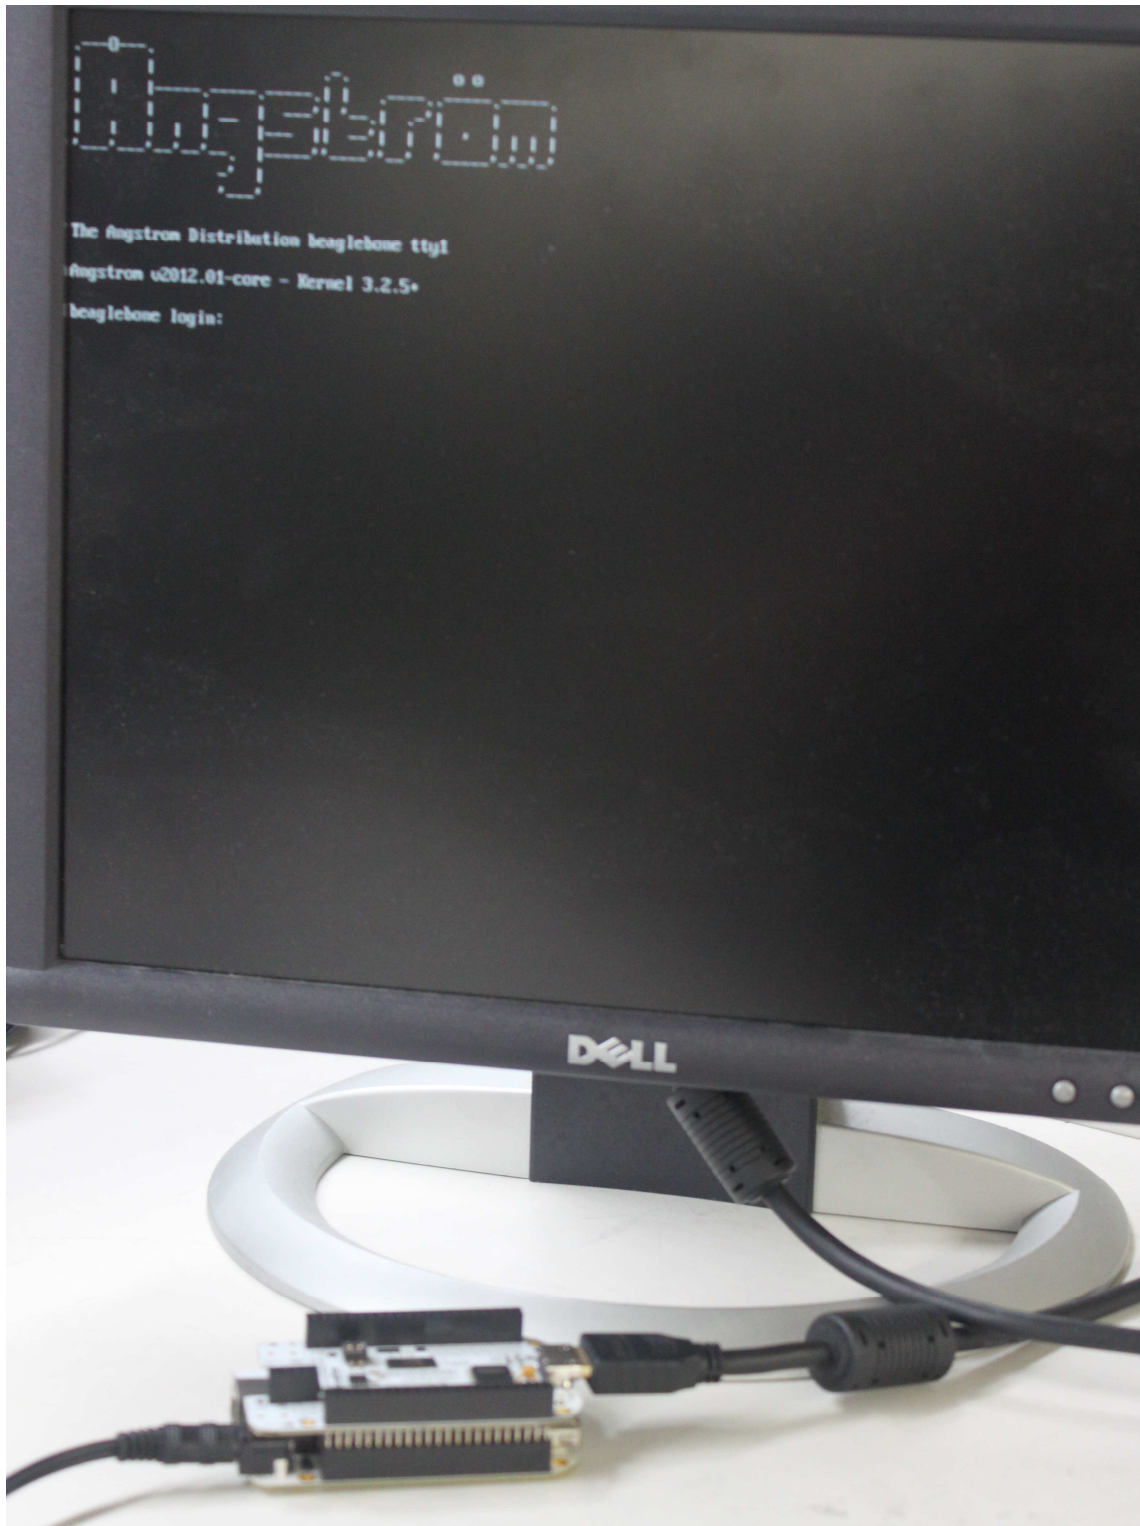

Figure 3. The Angstrom log-in prompt
- 5) Make sure the monitor is powered on. You should see a beaglebone logo, Angstrom log-in prompt, and eventually Angstrom desktop. **Figure 3** shows the Angstrom log-in prompt is successfully displayed on a DVI-D supported monitor.